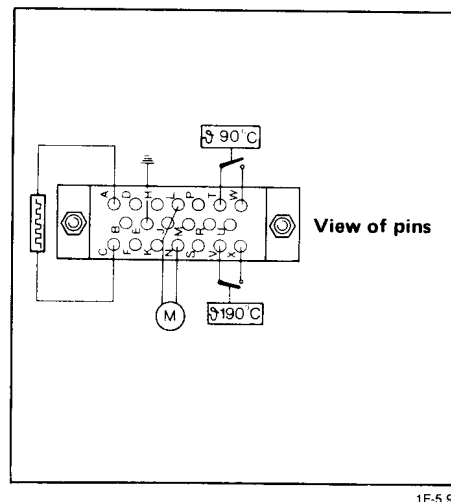

Figure 8-9 - Wiring Diagram for Diffusion Pump Plug H
- b. Check for continuity for the 90C switch between pins T and W (see Figure 8-9).
- c. Check for continuity for the 190C switch between pins V and X (see Figure 8-9).
Disconnect Plug H and quickly check for continuity between pins V and X (190C Switch) and then between pins T and W (90C Switch) (see Figure 8-9).